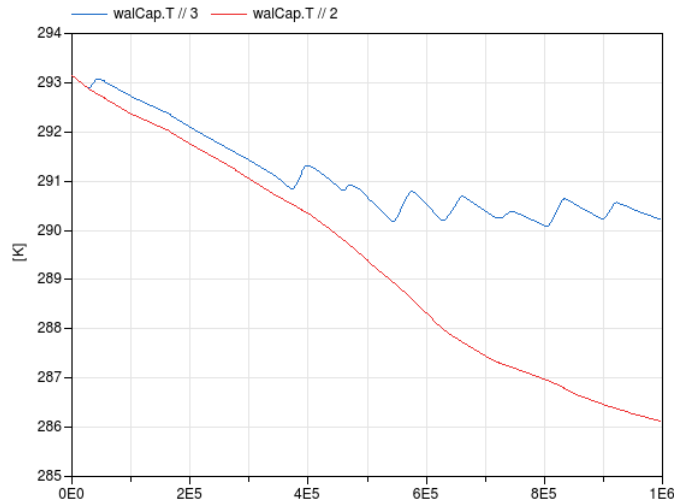

Figure 3: Wall temperature as function of time, with (blue) and without (red) window.
**Reference result** The result with and without the window model is plotted in Figure 3.